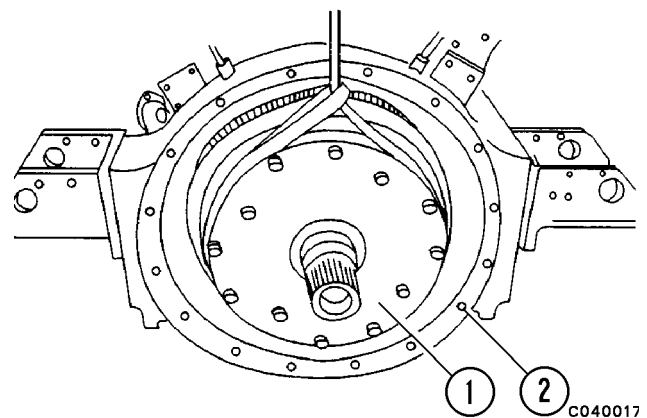

FIGURE 4-12. OUTPUT SHAFT DAMPER ASSEMBLY
6. Remove capscrews holding damper assembly to flywheel (12, Figure 4-14). Attach a sling and lifting device and remove output shaft damper assembly (1, Figure 4-12).